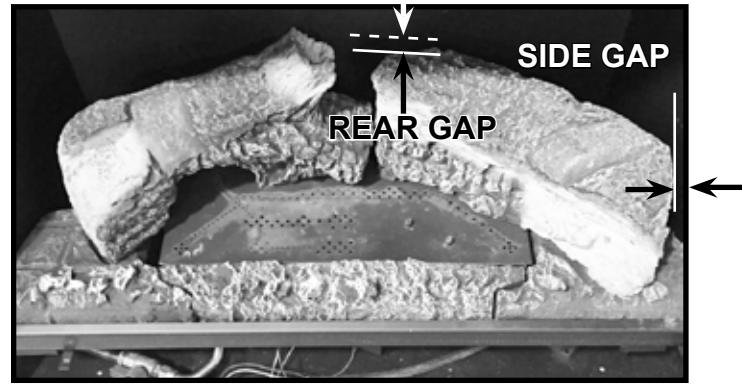

Figure 5. Install Right Rear Log
**SL-7/SL-7-IFT and SL-9/SL-9-IFT Models:** There will be about a 3/4 inch rear gap between the rear right log and the back wall of the firebox. There will be about a 1-1/2 inch side gap between the right end of the log and the right side of the firebox. See Figure 5.
**SL-5/SL-5-IFT Models:** There will be about a 1 inch rear gap between the rear right log and the back wall of the firebox. There will be about a 3/4 inch side gap between the right end of the log and the right side of the firebox. See Figure 5.